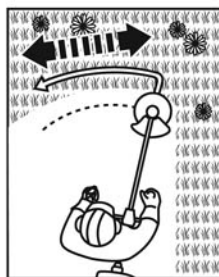

Fig. 26
- > Make slow and regular passes with the appliance, in an arc from left to right, and bring the appliance back to the initial position before moving to the next area (Fig. 26).